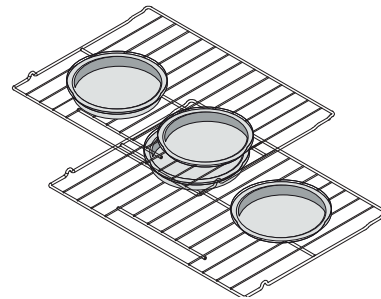
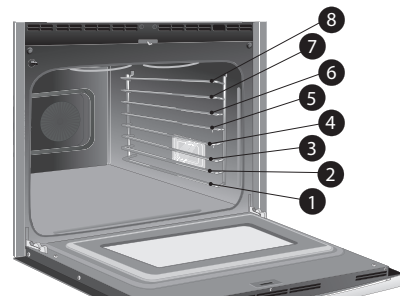

Figure 21: Baking on multiple levels in BAKE.
Figure 22: Oven rack positions
- For best results when baking cakes or cookies using two oven racks, place racks in positions 3 and 7 (Figure 22) and place pans as shown in Figure 21.